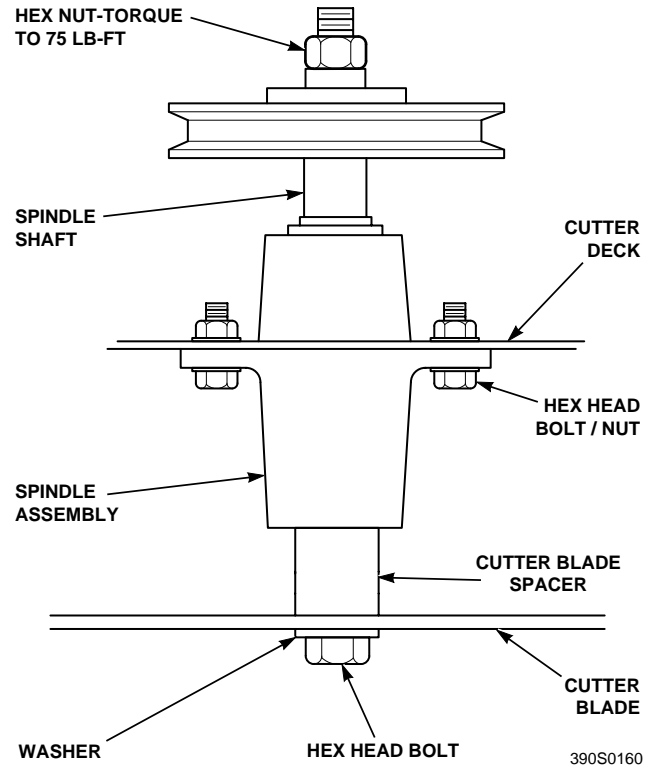

Figure 7-10 Blade Replacement
3. Secure the cutter blades to prevent them from rotating. (Use the optional Blade Buddy tool, P/N 9212, to assist in securing the cutter blades), remove the nut from the blade attaching bolt. Remove the cutter blade, bolt and spacer from the spindle shaft. (Figure 7-10).
6. Install the hex nut to the blade bolt at the top of the cutter spindle. Secure the blades from rotating and torque to 75 ft-lbs. (See Figure 7-10)